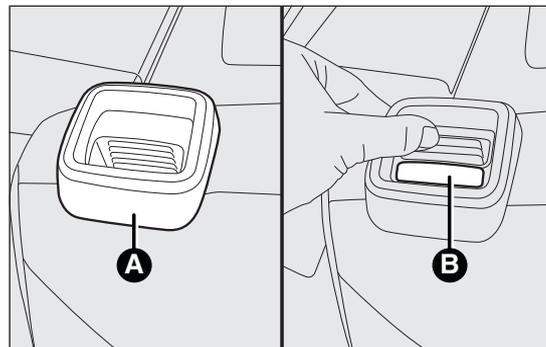

fig. 71
- for versions with single rear seat: operate backrest retainer lever A fig. 71 and fold the backrest forwards to obtain a flat loading area. When you lift the lever, you will see a red band B fig. 71.